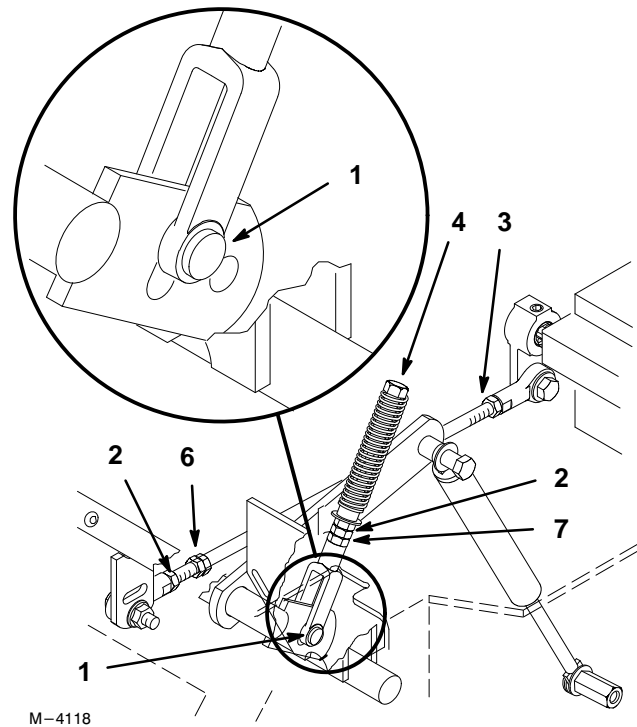

Figure 45
2. Begin with either the left or right motion control lever. Move lever to the neutral (but not locked) position and pull lever back until the clevis pin (on arm below pivot shaft) contacts the end of the slot (just beginning to put pressure on spring) (Fig. 45).
5. Apply slight rearward pressure on the motion control lever, turn the head of the adjustment bolt in the appropriate direction until lever is centered in neutral lock position (keeping rearward pressure on the lever will keep the pin at the end of the slot and allow the adjustment bolt to move the lever to the appropriate position (Fig. 45).
4. If adjustment is needed, loosen the nut against the yoke (Fig. 45).
12. Loosen locknut at ball joint on pump control rod (Fig. 45).
13. Adjust pump rod length by rotating double nuts on rod, in the appropriate direction, until wheel is still or slightly creeps in reverse (Fig. 45).